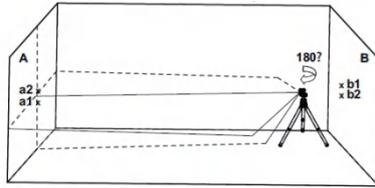

Fig.4
8. Turn the laser 180° towards wall A, and mark on the wall the center of the cross lines as a2 (see figure 4).